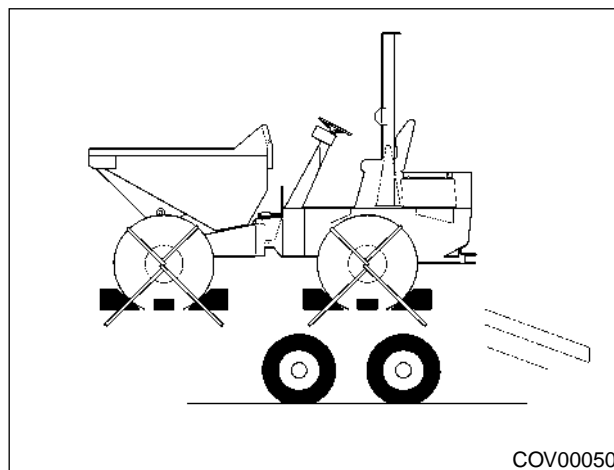

Figure 5.6 - Alternative Tie Down Method
- 6 Tie down using tie down points provided with suitable chains straps or ropes. Ropes may also be placed over wheels as shown in Figure 5.6.